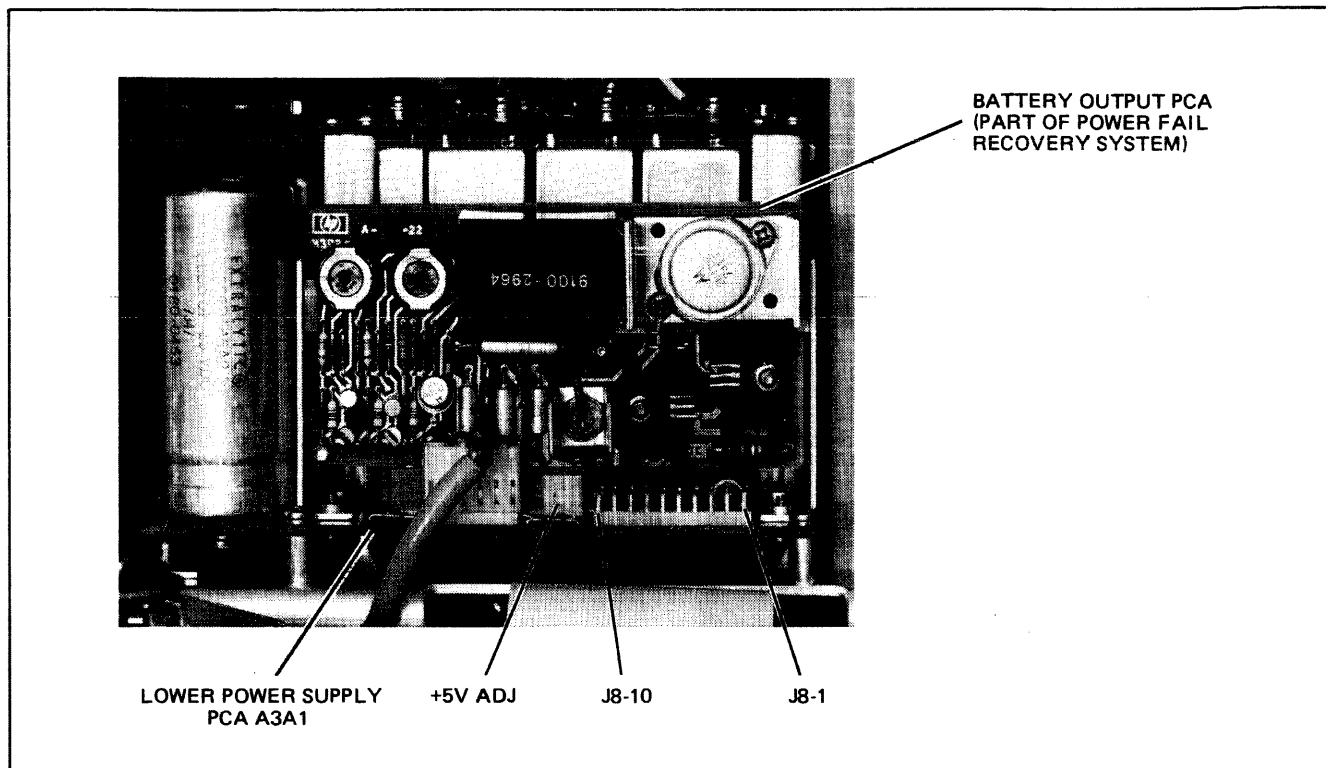

Figure 1-7. HP 2105A/HP 2108A Processor Power Supply Field Adjustment and Test Points
- f. Connect positive lead of digital voltmeter to J8-5 (+5V test point) and connect common lead to J8-2 (common test point). (See figure 1-7.)